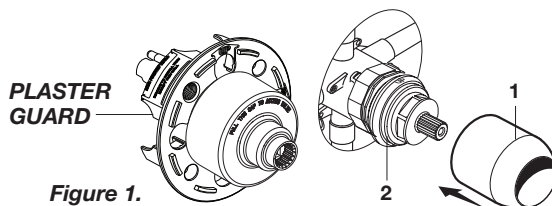

Figure 1.
- **Figure 1.** Remove plaster guard and cartridge cover from the valve. Push CAP (1) over VALVE CARTRIDGE (2) until seated against stop.